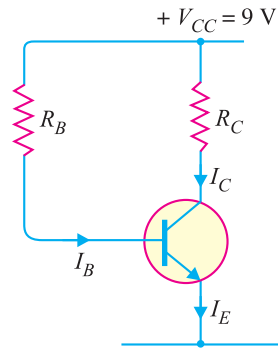

Fig. 9.49
3. Fig. 9.49 shows biasing by base resistor method. If it is required to set the operating point at 1mA, 6 V, find the values of R_C and R_B . Given $\beta = 150$, $V_{BE} = 0.3\text{ V}$. [$R_C = 3\text{ k}\Omega$, $R_B = 0.3\text{ M}\Omega$]